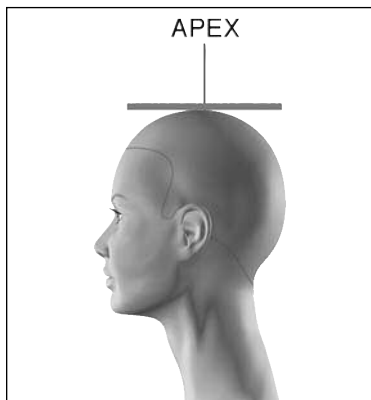

FIGURE 21 | The apex.
- The *apex* is the highest point on the top of the head (Figure 21).